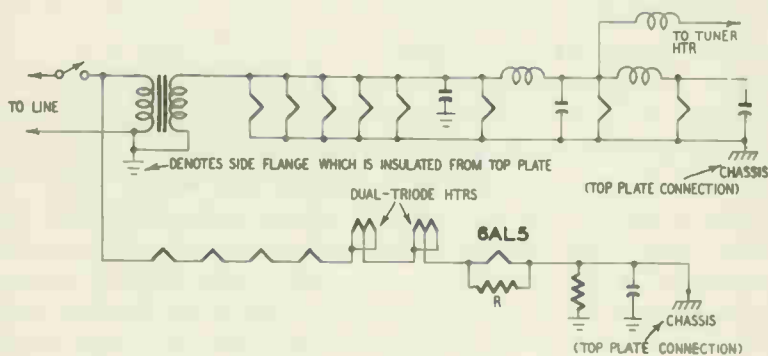

Fig. 212. Series-filament circuit in which a shunt resistor R is used across one of the tube filaments (6AL5).
possibility of failure of tubes for other reasons is increased as well. If a resistor (R) is in shunt with the tube that has been removed (Fig. 212), the resistor will overheat since an excessive voltage will now be present across it; in a few seconds, it may be permanently damaged.